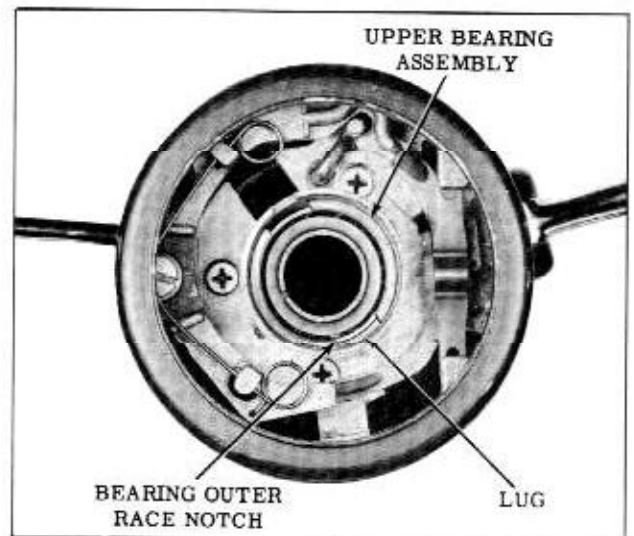

Fig. 4-7 Upper Bearing Position
1. Position upper bearing in actuator assembly (flange up) with one notch of bearing race aligned with opening inside of bore of bearing recess as shown in Fig. 4-7. Notches in bearing flange must also be aligned on lug in actuator.